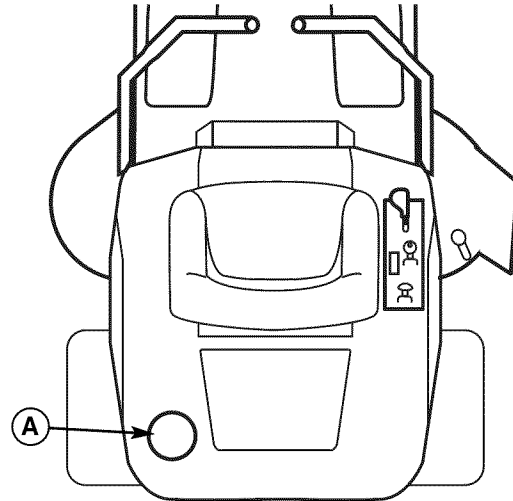

Figure 7. Pre-Start Checks
1. Remove the fuel cap (B, Figure 7).